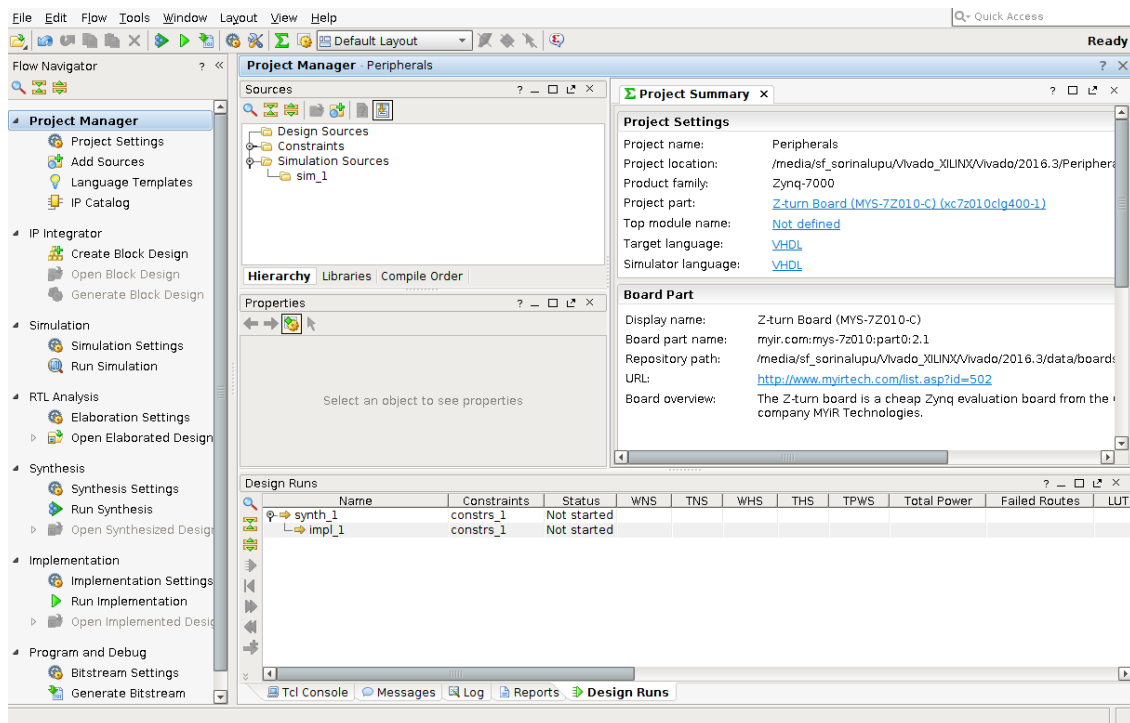

Figure 6: Project Structure
3. The **Peripherals** project should now look similar to Figure 6. In this project, we will implement the necessary files to control an RGB LED and a buzzer.